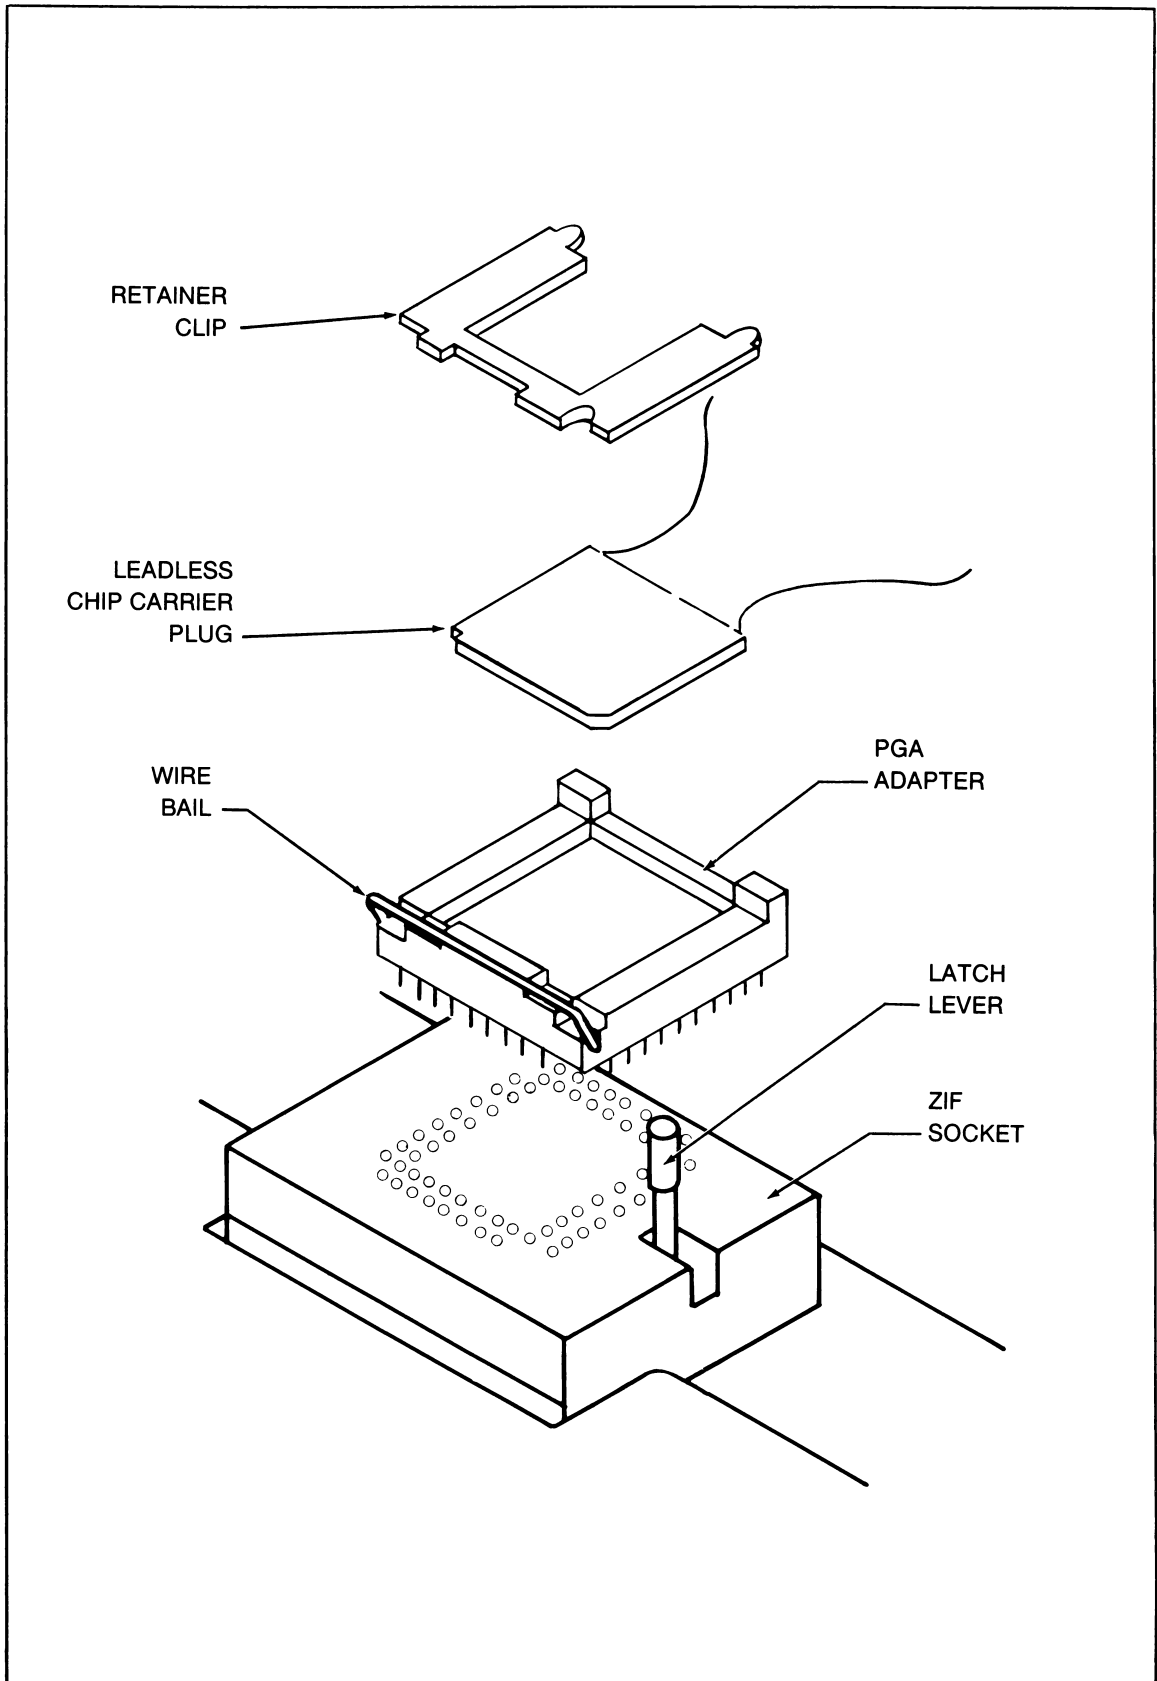

Figure 1-4. Inserting Pod Cable into Self Test Socket
3. Insert the Pod UUT cable into the Zero-Insertion Force (ZIF) self-test socket (as shown in Figure 1-4):